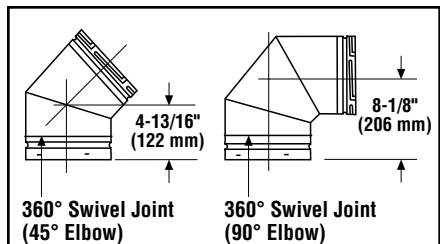

Figure 20: Elbows
- Each elbow features a 360° swivel joint (Figure 20), which allows it to be rotated around the center axis of the dimpled end, to align with the direction of the next vent run section.